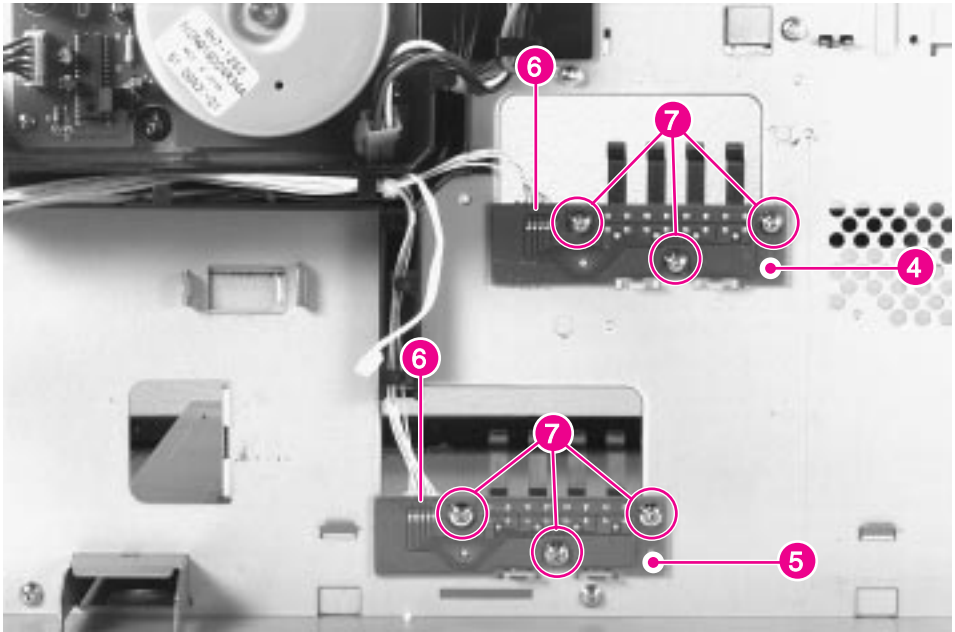

Figure 6-39 Paper Size PCA (2 of 3)
The Paper Size PCA for Tray 2 (figure 6-39, callout 4) is identical to the PCA for Tray 3 (figure 6-39, callout 5). The removal procedure for both PCAs is the same.
- 3 Unplug the connector (figure 6-39, callout 6), remove 3 screws (figure 6-39, callout 7), and remove the PCA and actuating fingers.